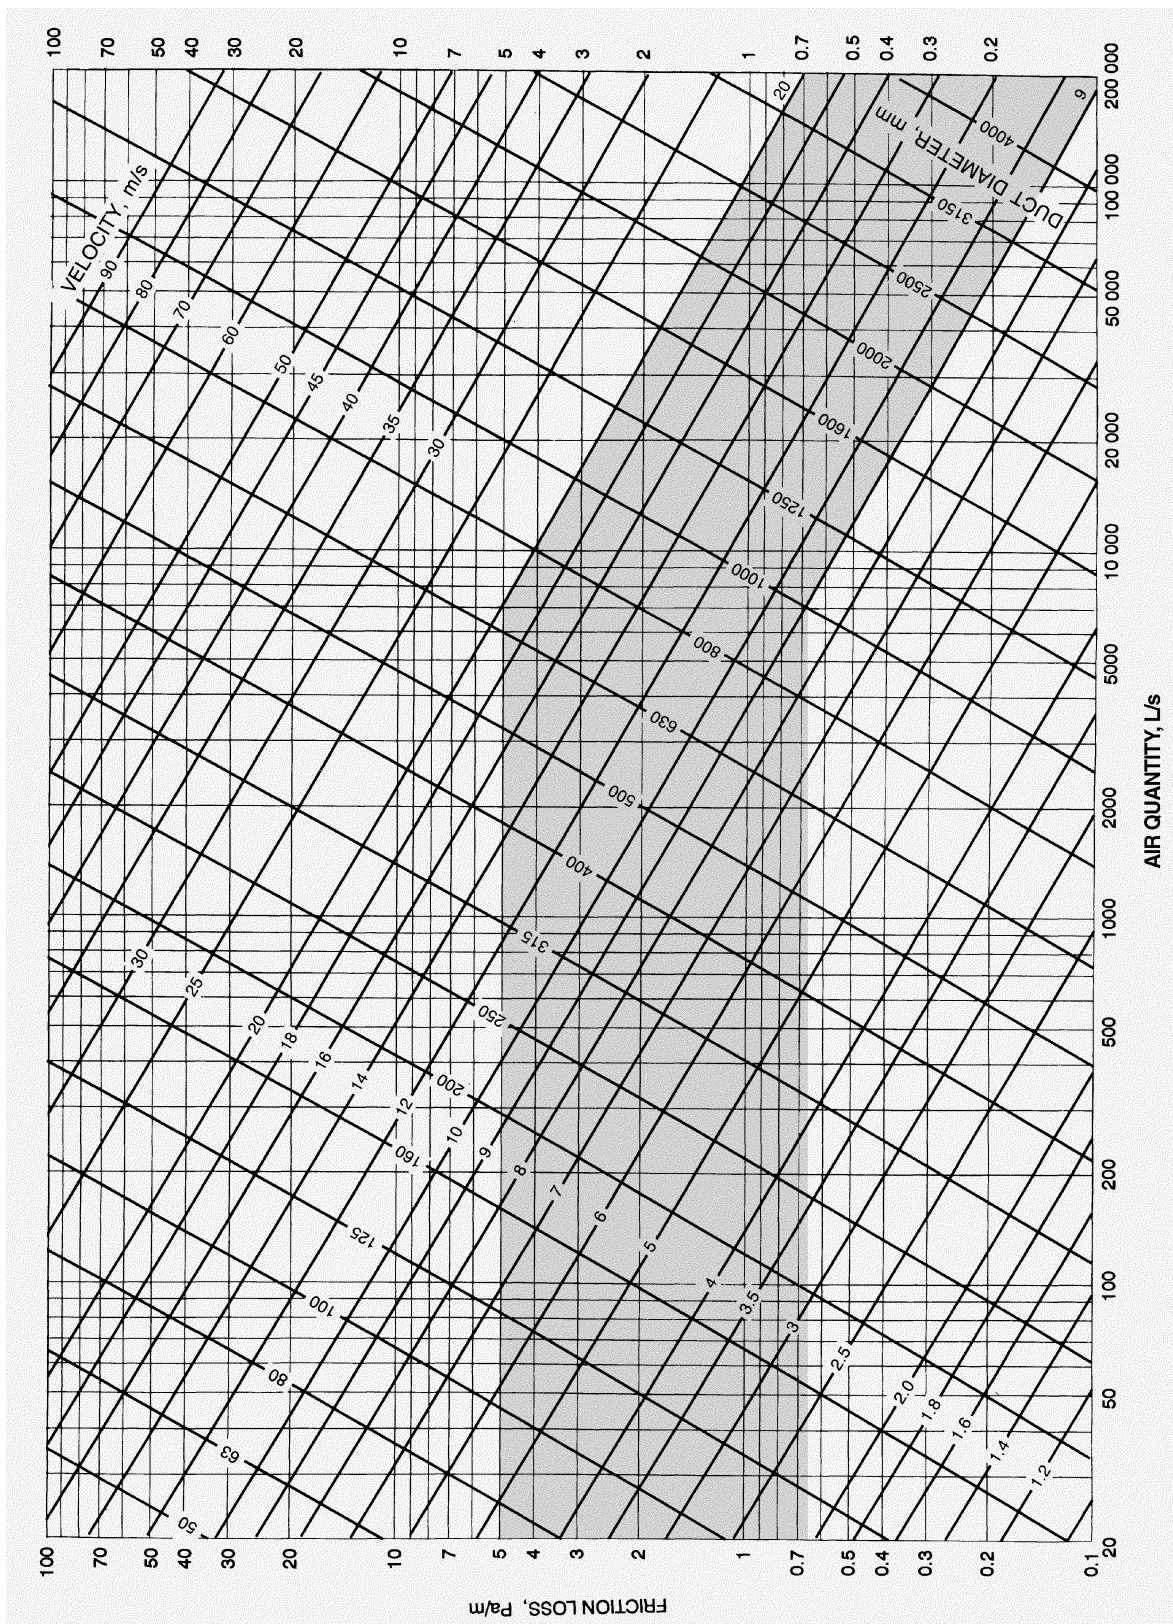

Fig. 9 Friction Chart for Round Duct ($\rho = 1.20 \text{ kg/m}^3$ and $\varepsilon = 0.09 \text{ mm}$)
p. 34.9, Fig. 9. Replace I-P value chart with SI value chart (page A.7).
p. 35.9, Fig. 9. Add “(12.7 mm)” after “1/2 in.” throughout.